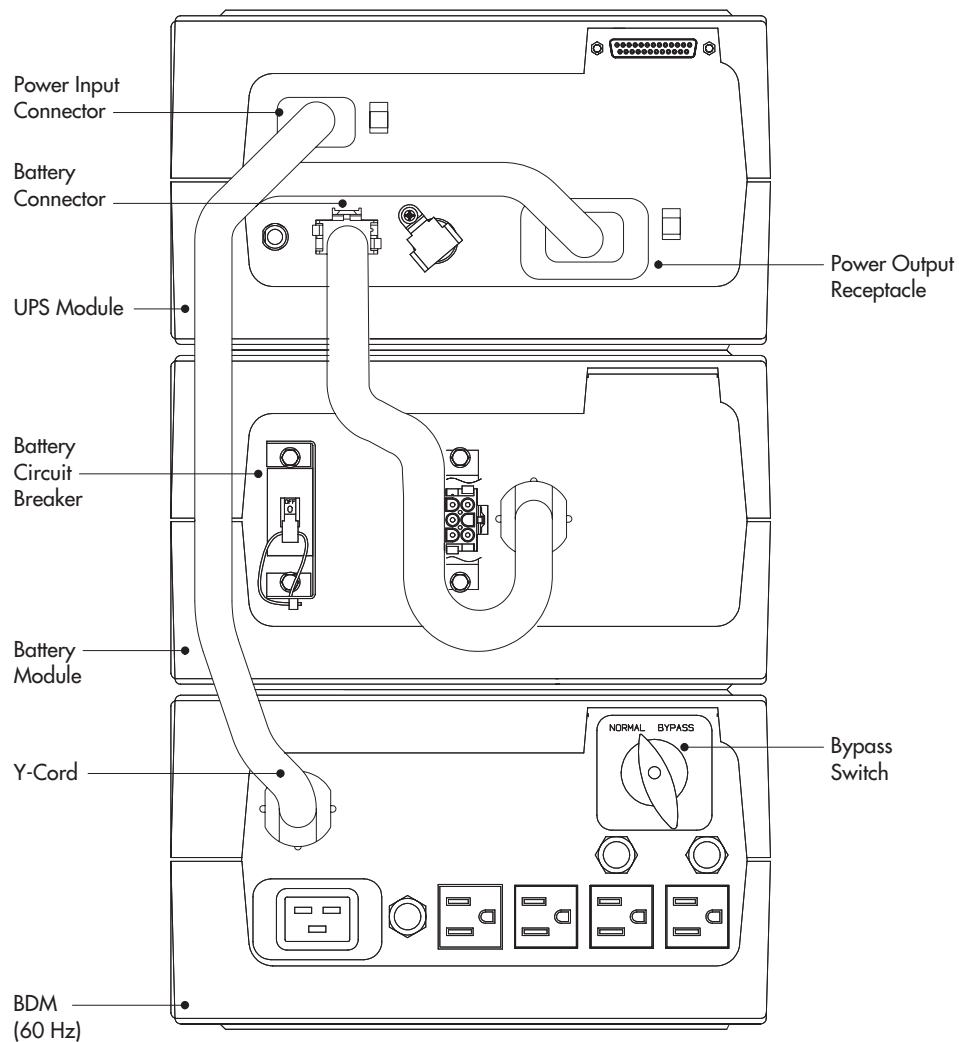

Figure 18. UPS with Bypass Module Rear Panel (60-Hz BDM Shown)
- 1** Turn the Bypass switch on the Bypass Module to the BYPASS position (see Figure 18). The Bypass Module is now powering your equipment from utility power.
- 2** Turn the circuit breaker on all battery modules to the ON (I) position.
- 3** Plug the Y-cord of the Bypass Module into the power connectors on the UPS as shown in Figure 18.